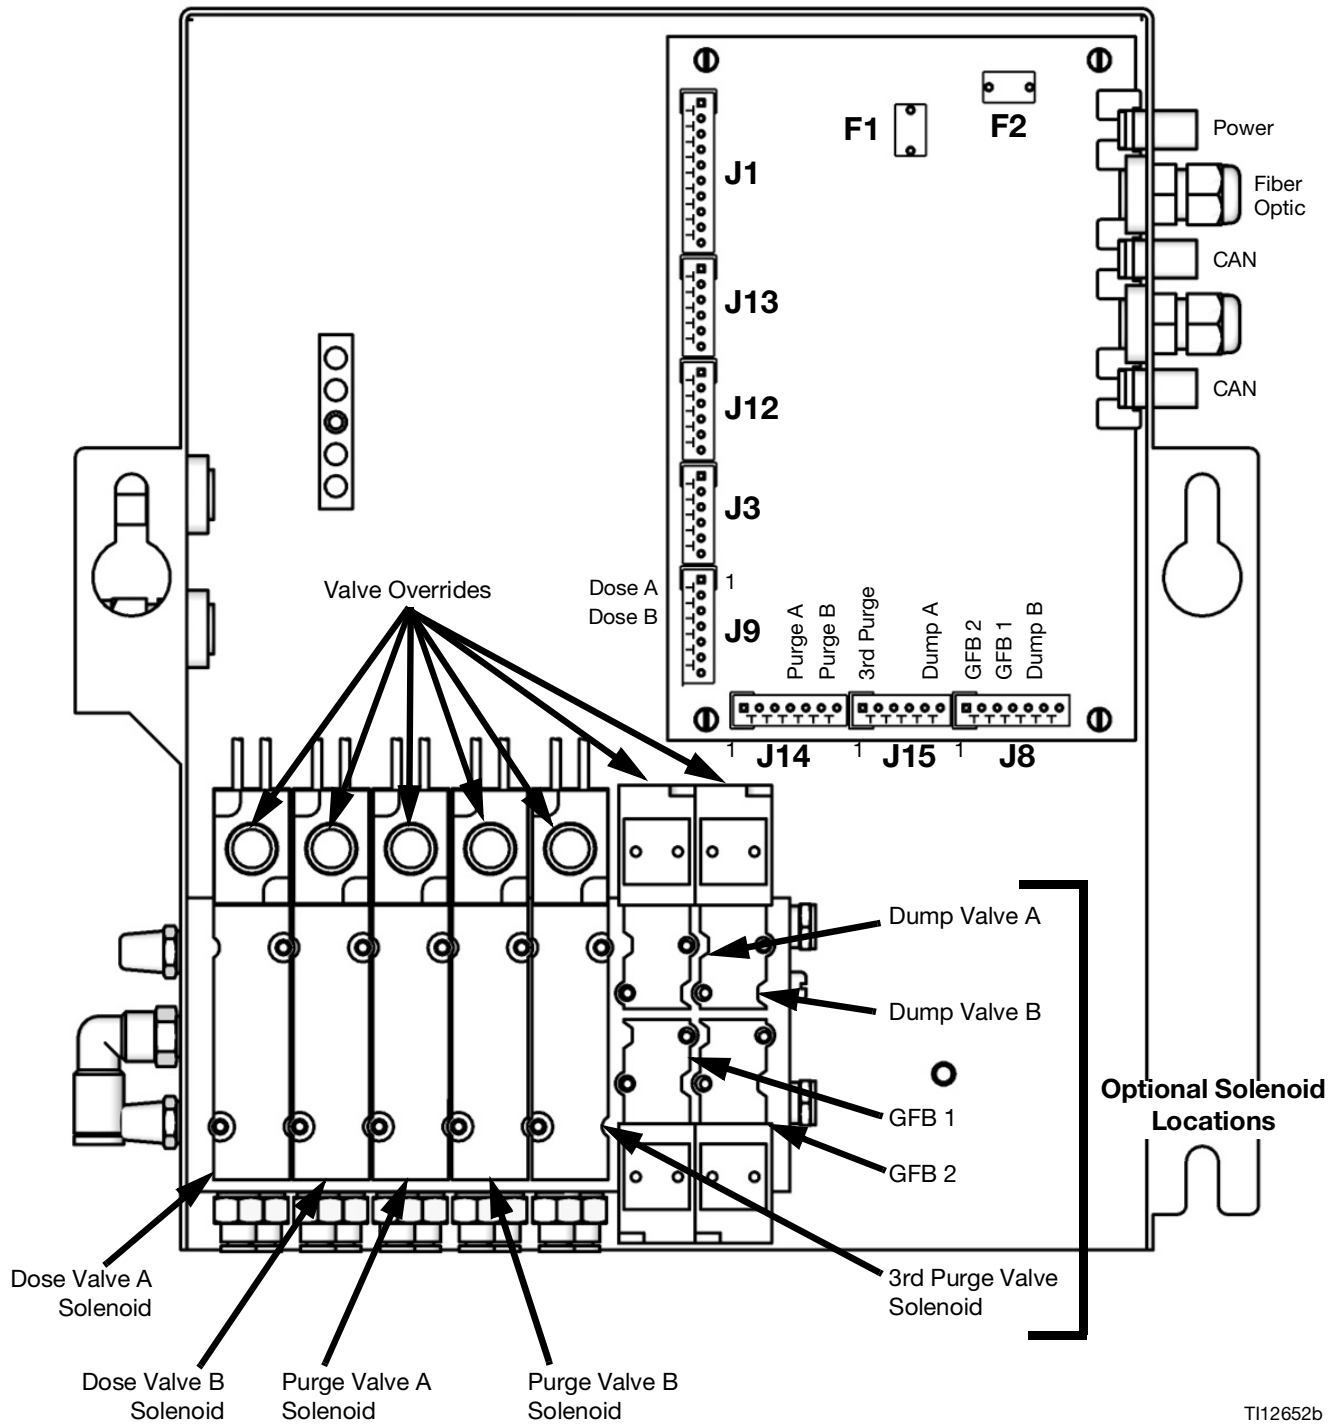

FIG. 4: Fluid Station Board and Solenoids
2. With the gun triggered, push the manual override on the A and B dose valve solenoids to relieve pressure. See FIG. 4.
5. With the gun triggered, push the manual override on the A and B purge valve solenoids to relieve air and solvent pressure. See FIG. 4. Verify that solvent pressure is reduced to 0.
3. Press and hold the dump valve A solenoid override, FIG. 4.
5. Press and hold the dump valve B solenoid override, FIG. 4.
7. Press and hold the dump valve A solenoid override, FIG. 4.
9. Press and hold the dump valve B solenoid override, FIG. 4.
| 3. Solenoid failure. | <p>Manually operate the valves by removing the Fluid Station cover and pressing and releasing solenoid valve override buttons. FIG. 4.</p> <p>Use the control board diagnostics to check the signals. If signals do not occur correctly, go to Cause 4.</p> <p>Valves should snap open and shut quickly. If the valves actuate slowly, it could be caused by:</p> <ul style="list-style-type: none"> • Air pressure to the valve actuators is too low. See Cause 1. • Solenoid is clogged. Make sure air supply has 5 micron filter installed. • Something is restricting the solenoid or tubing. Check for air output from air line for corresponding solenoid when valve is actuated. Clear restriction. • A dose valve is turned in too far. See ProMix 2KS Operation manual for settings. • Fluid pressure is high and air pressure is low. • Fluid seal in valve has failed. See corresponding valve manual for repair information. |